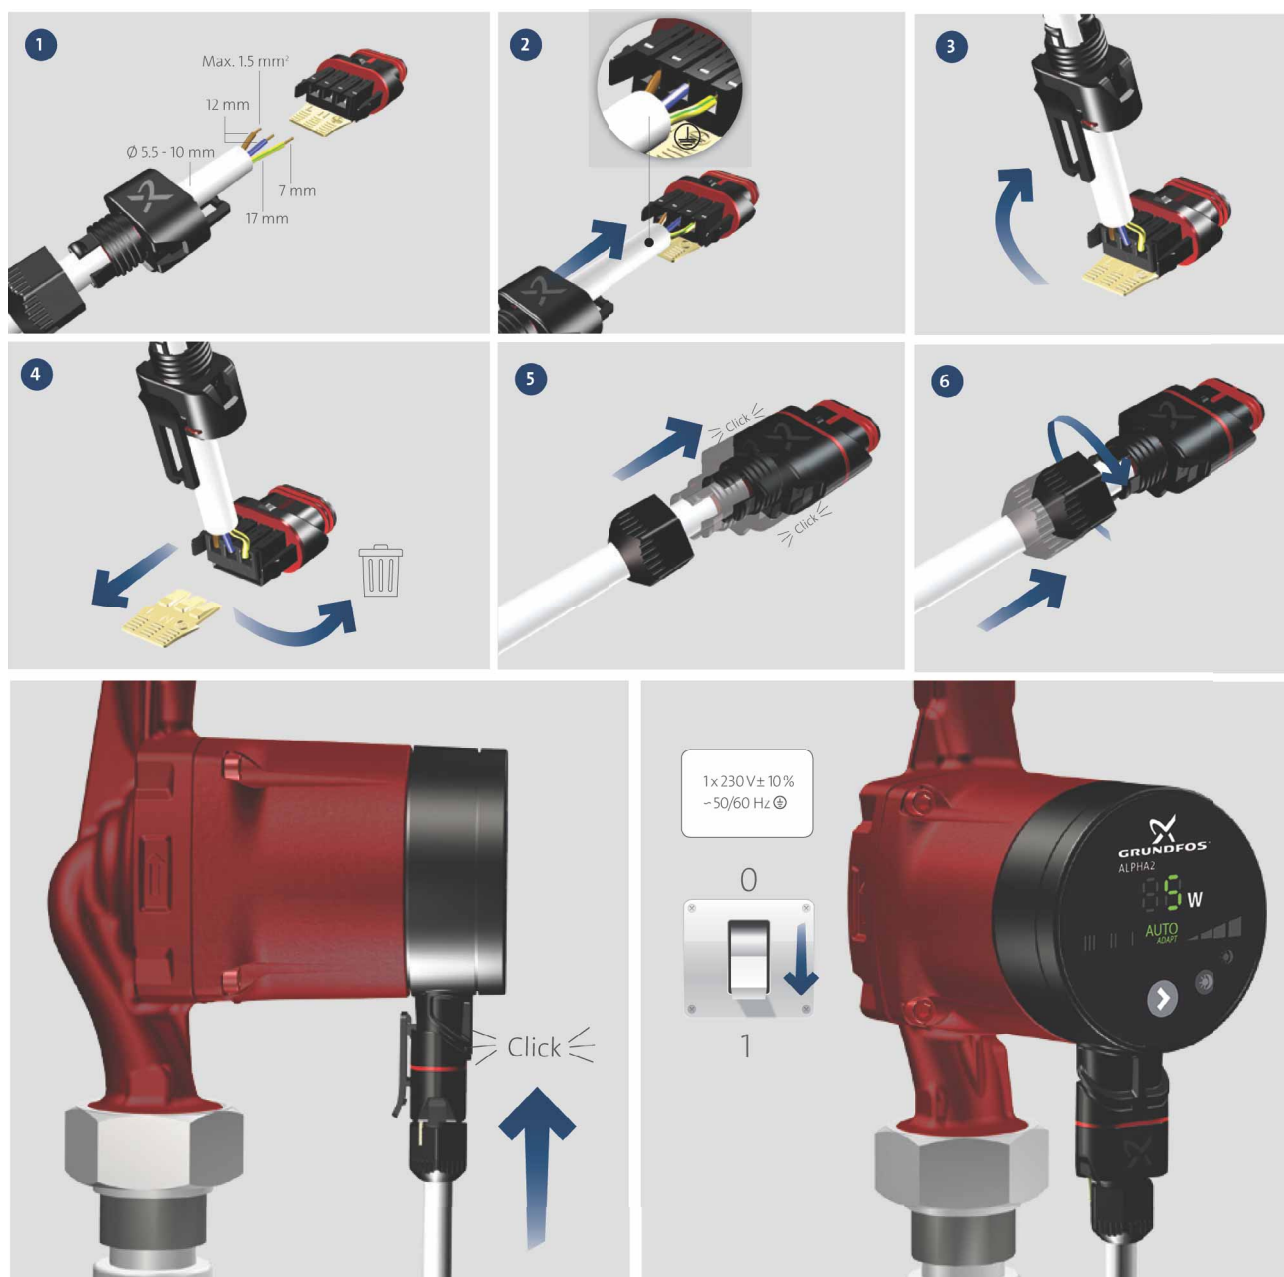

Fig. 7 Electrical connection
- Connect the pump to the power supply with the plug supplied with the pump as shown in fig. 7.